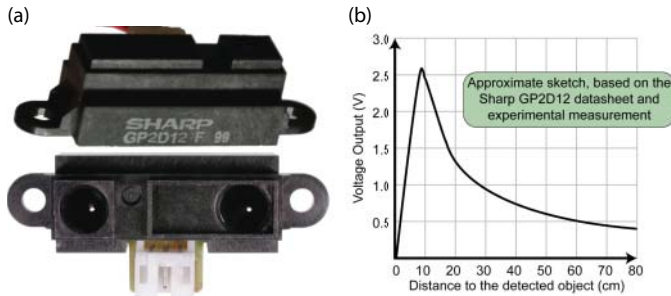

Figure 10-11: (a) Sharp infrared distance measurement sensor, and (b) its analog output response
mobile platform). They work well in indoor environments but have limited use in direct sunlight. They have a response time of ~39 ms, so at 25–26 readings per second, they will not provide dense range images. Figure 10-11(a) shows two aspect views of a low-cost sensor, the Sharp GP2D12 (tiny.cc/erpi1005).
1. The sensor response in Figure 10-11(b) is highly nonlinear, so that two different distances can give the same sensor output. Thus you need to find a way to disambiguate the sensor output. For example, if the sensor output is 1.5 V, it could mean that the detected object is either 5 cm or 17 cm from the sensor. A common solution to this problem is to mount the sensor so that it is physically impossible for an object to be closer than 10 cm from the sensor. This problem is not examined in further detail and it is assumed here that the detected object cannot be closer than 10 cm from the sensor.